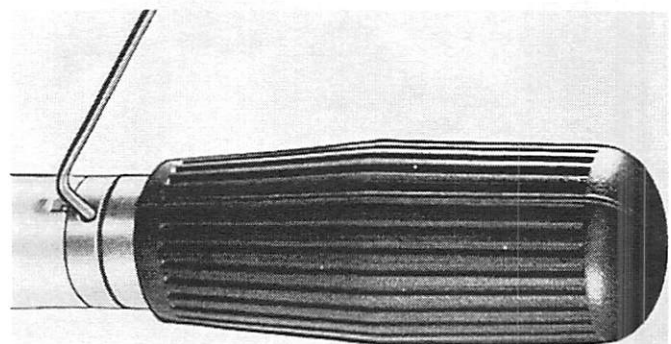

Figure 7. Twist Grip Alignment
2. If twist grip is not properly aligned, loosen allen screw at bottom of twist grip and realign. (Figure 7)